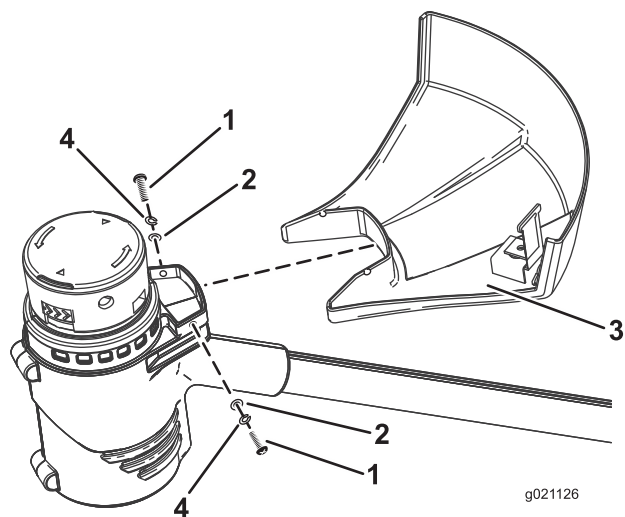

Figure 3
1. Remove the 2 Phillips screws and washers taped to the guard (Figure 3).
2. Slide the guard onto the trimmer base as shown in Figure 3.